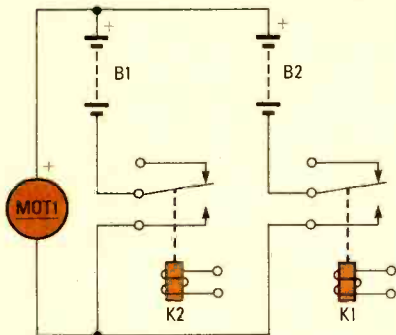

Fig. 3. This circuit was used by the author to control a one-axis arm built from a toy-store-bought robotic kit. The combination was a good one.
**Interfacing.** Figures 3 and 4 show two interfacing techniques. In my case, I used the one in Fig. 3 to control a one-axis arm built from a robotic kit. The sensor array was rotated by the kit's 3-volt DC motor. The result was an amusing little fellow that we affectionately
After you've obtained the printed-circuit board, assembly can begin: Use Fig. 3 as a construction and wiring guide. It is recommended that IC sock-